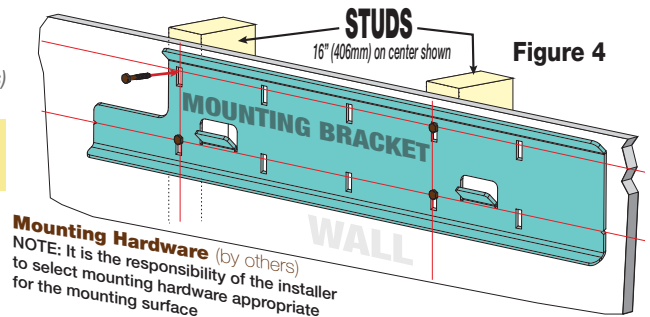

Figure 4
1. Secure the Mounting Brackets (minimum of 3) to the wall using appropriate hardware (*by others*) See Fig. 4.